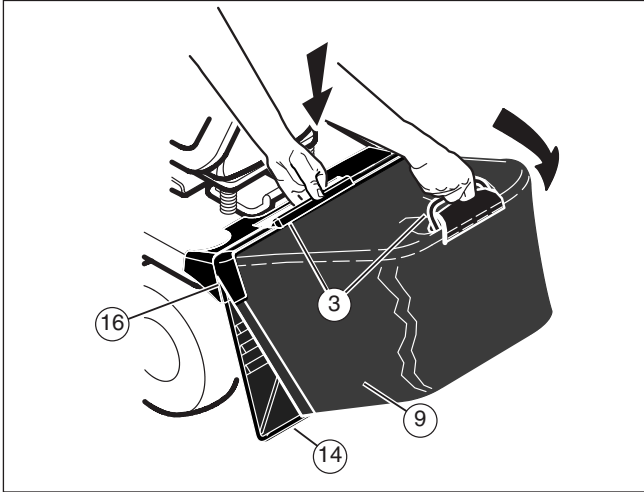
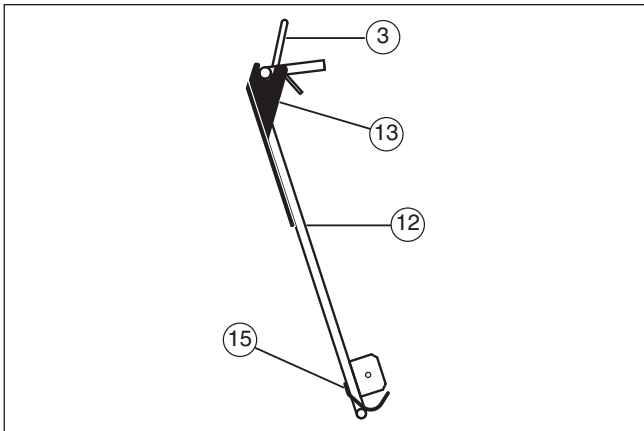

Figure 8
Figure 9
1. To lift the grass bag assembly, use the grass bag handles (3) (see **Figure 8**).
2. Raise the rear bagger cover (16) away from the rear plate.
3. Mount the top of the grass bag assembly (12) onto the rear plate hinges (13) (see **Figure 9**).
4. When mounting the top of the grass bag (9), hold the bottom of the grass bag slightly away from the rear plate (14) (see **Figure 8**).
6. Push down on the rear handle. A locking spring (15) on the rear plate will secure the bottom of the grass bag assembly (12) (see **Figure 9**).